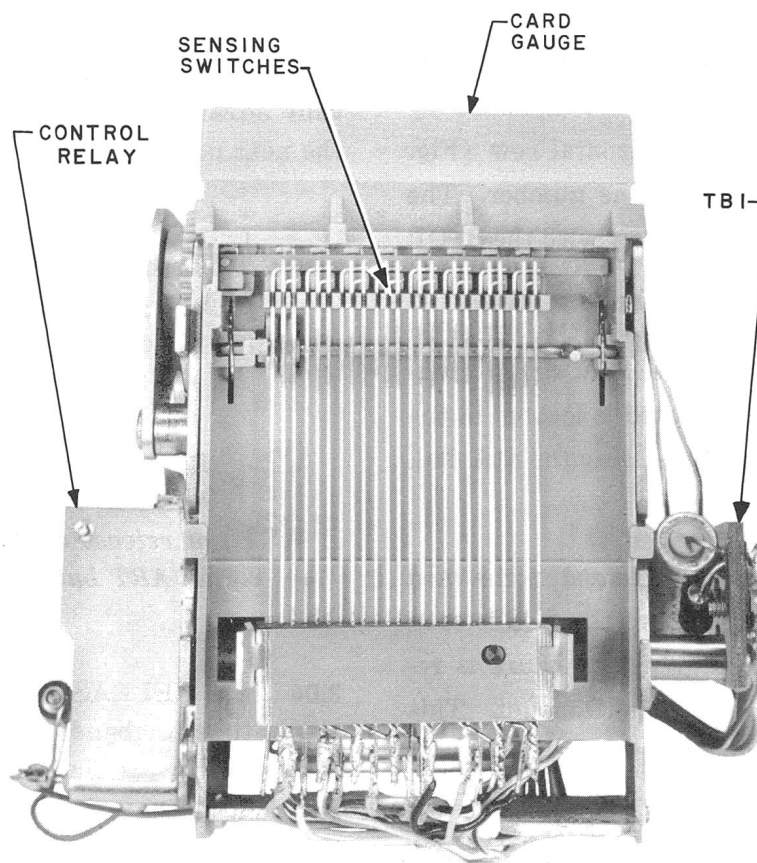

Fig. 3 — Card Gauge, Front View
2.05 The card reader consists of a card gauge, eight sensing rollers, and eight wire spring switches. (Fig. 3 and 4). The card gauge positions the card against the sensing rollers. The rollers fall into the punched code holes row by row and transform the card information into switch contact operation.